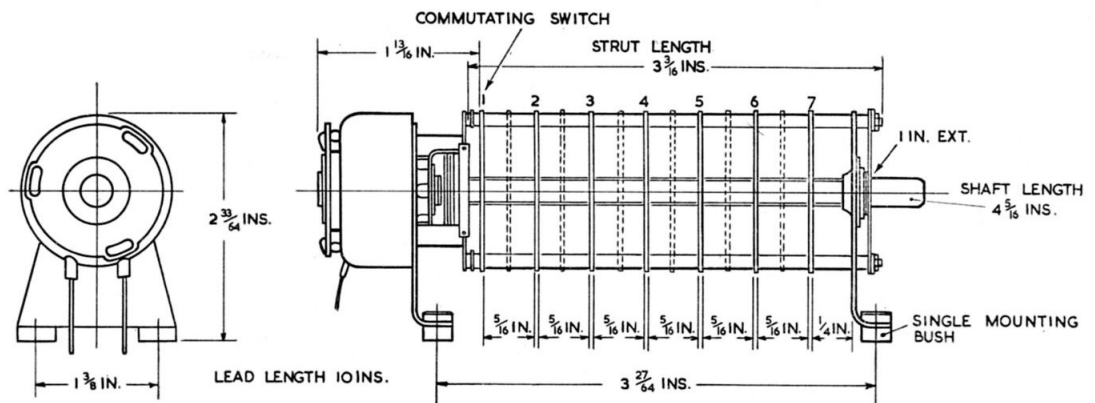
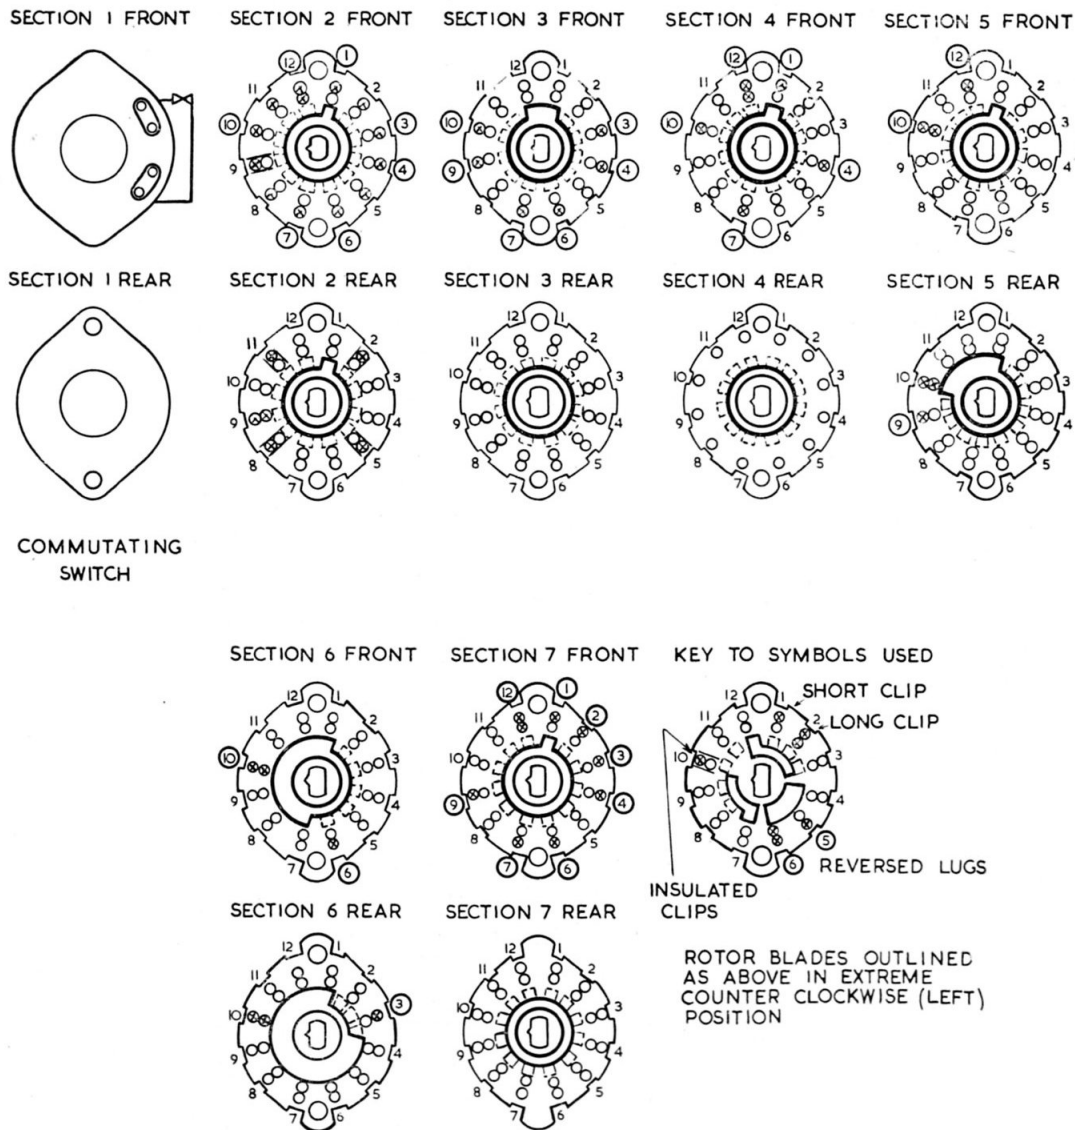

Fig. 1. Stepping relay, Type LX/CSI/10589/DH7
Fig. 2. Switch section contact arrangements
2. This stepping relay (*fig. 1*) incorporates seven switch sections, No. 1 being the commutating switch, and No. 2 to 7 the load sections. The various contact arrangements for each section are shown in *fig. 2*; the front and rear are as viewed from the solenoid end of the unit.
4. The relay is designed for chassis mounting, with three rubber-bushed flexible mountings, as shown in fig. 1.